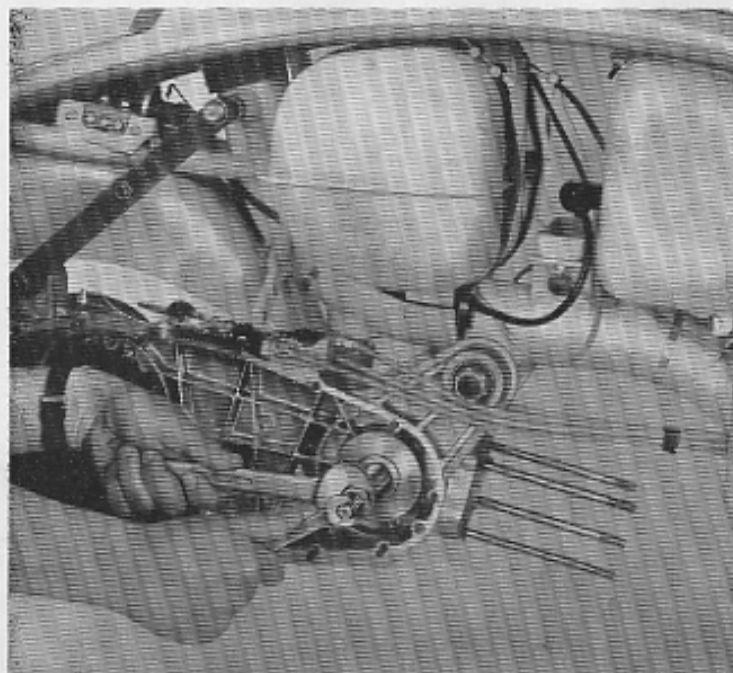

Fig. 26
- 36 To refit the crankshaft drive side ball bearing: Place the 60mm diameter disc on to the tool screw, followed by the bearing, taking care that the cut out face of the disc faces the bearing. Insert screw into the flywheel side bearing seat. Slide on to the screw from drive side the 73mm diameter disc, followed by the distance piece. Screw the nut on to the distance piece holding the screw with a 12mm spanner. Ensure that the bearing enters correctly into its seat and is pushed fully home. Then refit, from the inside of the crankcase, the seal ring and the retaining flange. See Fig. 26.